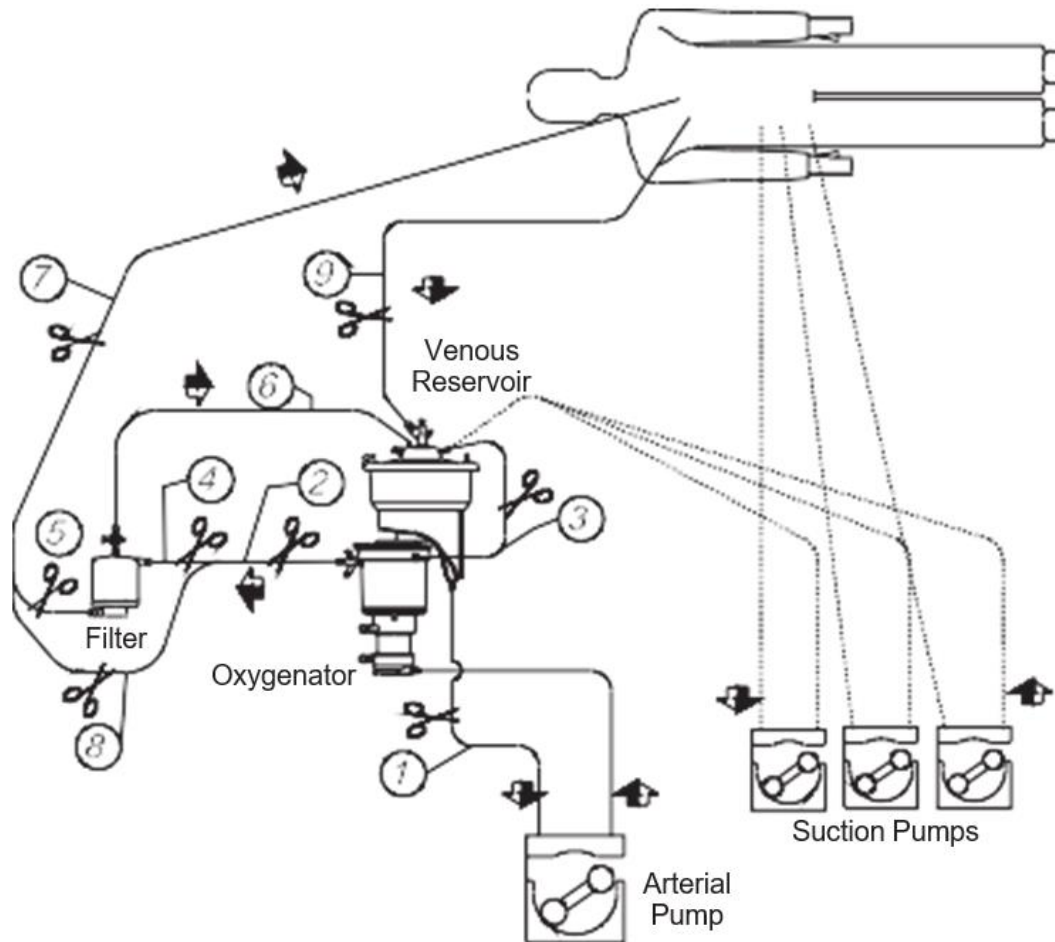

Figure 3 - Circuit for priming procedure
8.4 Priming procedure (Figure 3):
- b. Clamp the pump line (1) and the Oxygenator arterial blood outlet (2).
- d. With the pump line outside of the Arterial Roller Pump, slowly loosen the clamp of the pump line (1) so that the priming solution drains by gravity and fills the entire line and the Oxygenator.